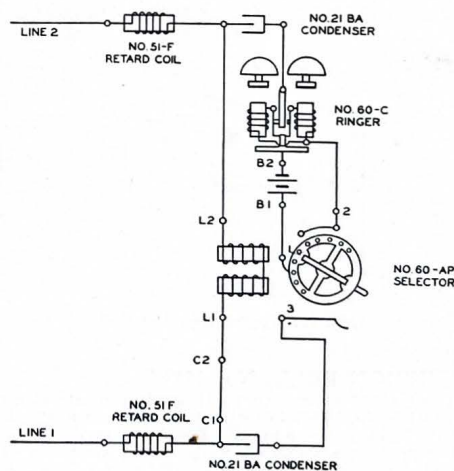

Fig. 2—No. 160-AR Selector Set
**No. 160-AR SELECTOR SET (see Schematic wiring Fig. 2.)**